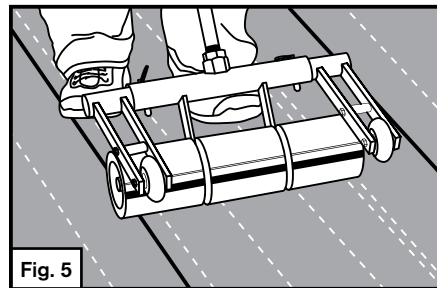

Fig. 5
**Step 10.** As each course is completed, roll the course with an 80 pound linoleum roller. Start at the center and work outward to remove trapped air. See Fig. 5
In lieu of hot air welding, the top layer can be set in a thin layer of modified asphalt flashing cement that is at least 6 inches wide and approximately 1/8 inch thick. Take care to prevent roof cement from oozing onto exposed area. If this should occur, sprinkle loose granules on the exposed asphalt immediately. See Fig. 5